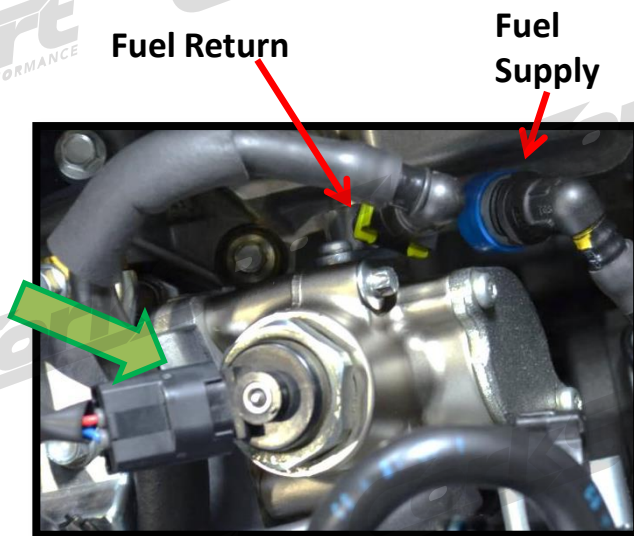

Figure 5b
g) Re-connect the electrical connector on the top of the fuel pump (green arrow in Figure 5b).